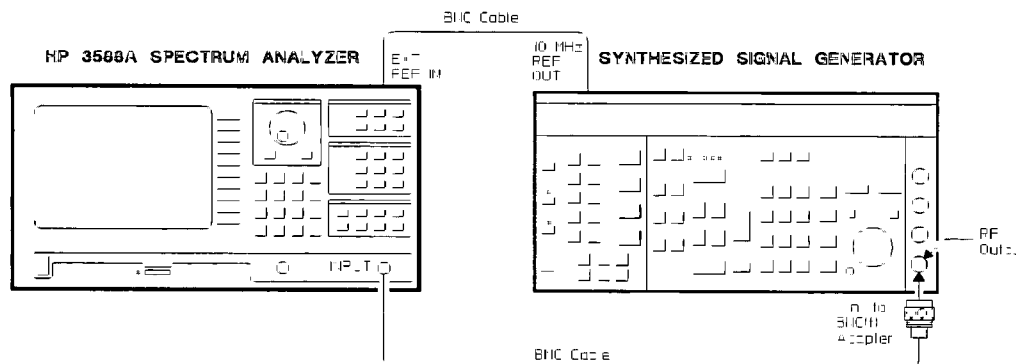

Figure 3-3. Image Responses Setup
- BNC Cables (2)
1. Connect the test equipment as shown in figure 3-3.